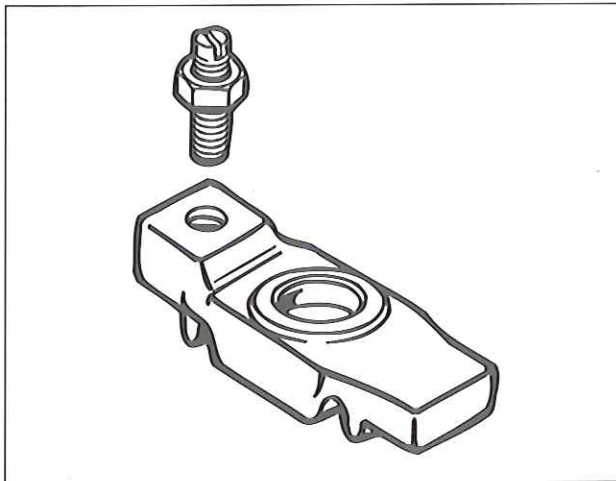

FIG. 56
3. Loosen the leveling screw locknut and remove the leveling screw from the bridge (Fig. 56).